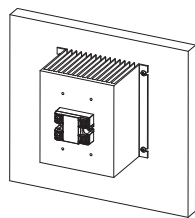

fig. 3 Panel Mounting
- For Panel Mounting install as shown in **fig.3**. Recommended screw size is 8-32 (UNC standard) or M4 (metric).